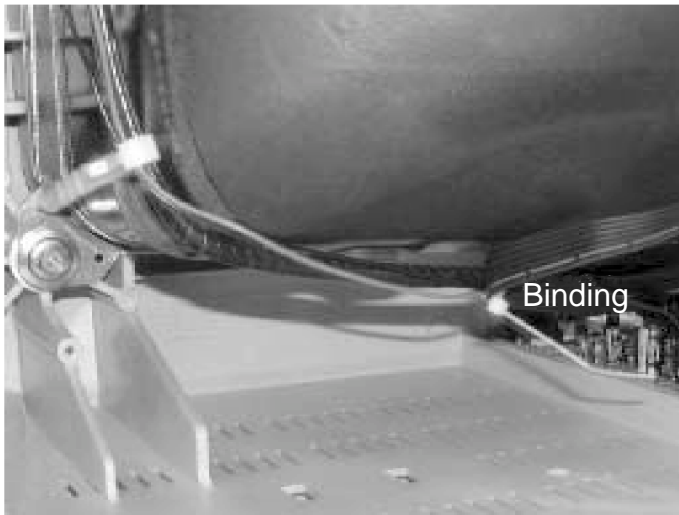
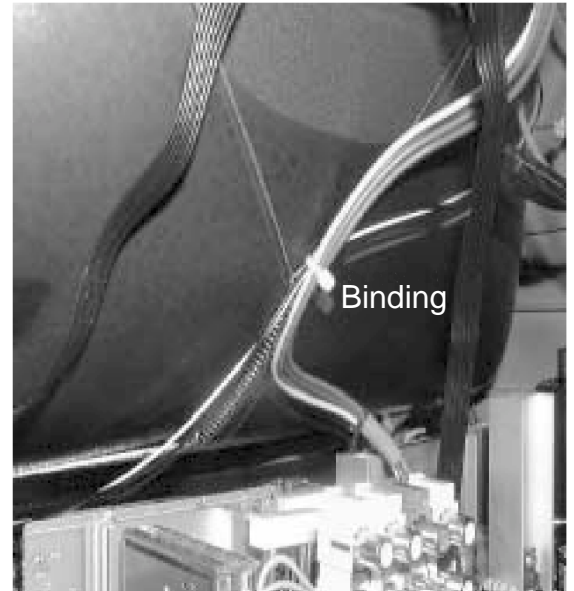

Fig. 1
Fig. 2
Remove the bindings of Fig. 1 and Fig. 2. After the unplugging of all connectors, remove Main PCB.
2. Press both VOL. DOWN button on the set and Channel button (6) on the remote control for more than 1 second. ADDRESS and DATA should appear as FIG 1.